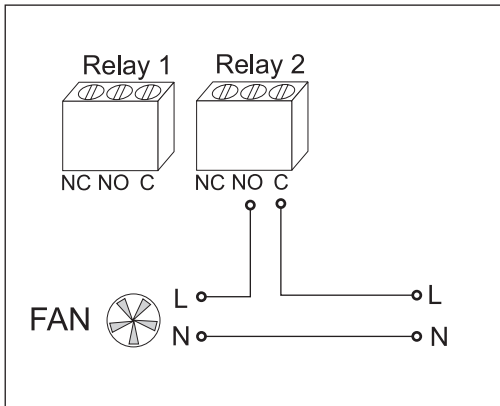

Figure 2.2 Alarm relay electrical connections.
The CellarSafe has two alarm relays to which external visual and audible alarms or other ancillary equipment, such as a fan, can be connected. An example electrical connection is shown in Figure 2.2.
The two alarm relay connections are each marked NC (normally closed), NO (normally open) and common (C). Use the NO and C screw terminal connectors as shown in Figure 2.2. (L = live, N = neutral)
**NOTE:** *The alarm relays are shown in the normally energised state. When installing the device the normally open (NO) connection will be closed since there is no power. Similarly, the normally closed (NC) connection will be open.*